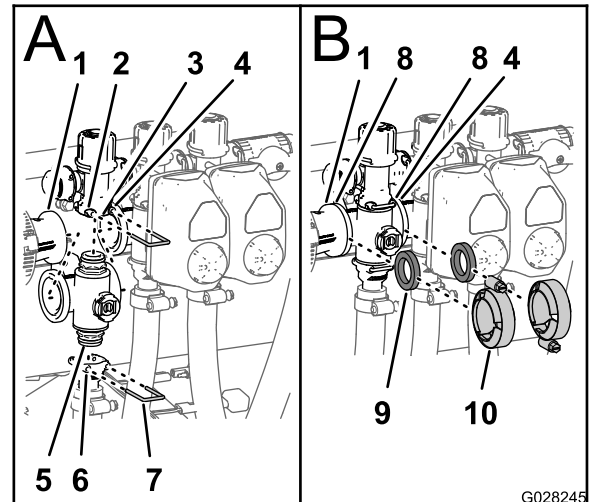

Figure 144
1. Insert the upper end-cap fitting of the manifold valve into the bypass fitting (Figure 144).
2. Secure the end-cap fitting to the bypass fitting by inserting a retainer into the socket of the bypass fitting (Figure 144).
3. Assemble the outlet fitting onto the lower end-cap fitting of the manifold valve (Figure 144).
4. Secure the end-cap fitting to the outlet fitting by inserting a retainer into the socket of the outlet fitting (Figure 144).
5. Align a gasket between the flanges of the reducer coupling and the section valve manifold (Figure 144).
6. Assemble the reducer coupling, gasket, and section valve manifold with a clamp, and tighten by hand (Figure 144).
7. If installing the 2 left most section valves, align a gasket between the flanges of the 2 adjacent section valve manifolds (Figure 144).
8. Assemble the and 2 adjacent section valve manifolds and gasket with a clamp, and tighten by hand (Figure 144).